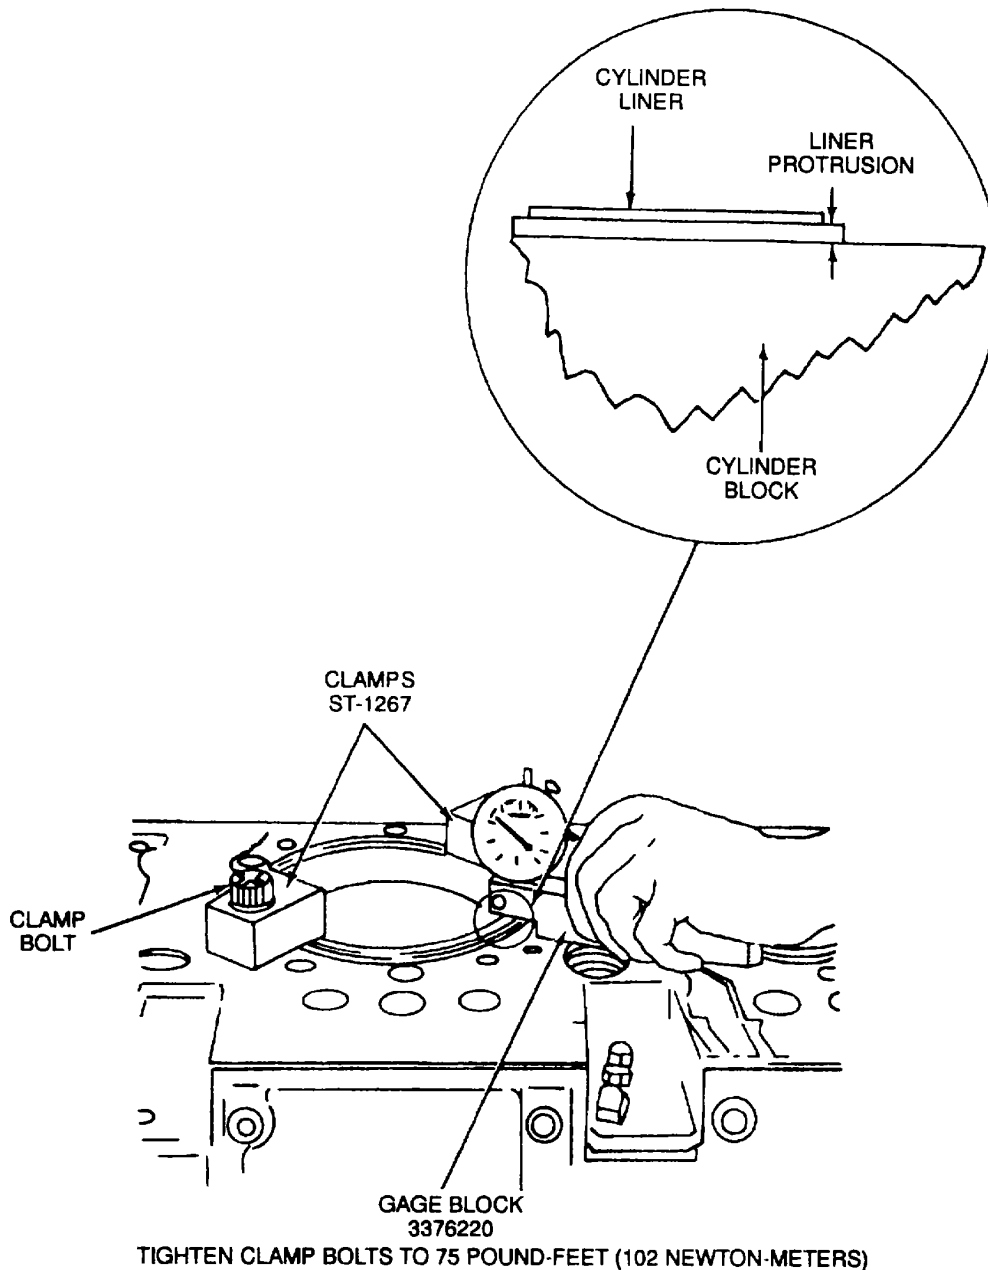

Figure 9-34. Checking Cylinder Liner Protrusion
- e. Install the cylinder liner dampers ST-1 267 and check the liner protrusion with gage block 3376220 as follows (see Figure 9-34):
- (1) Position the dampers on the cylinder liner flange 180 degrees apart with the damper holes centered on the threaded cap screws holes in the cylinder block. Install the cylinder damper bolts provided, and tighten evenly to 75 pound-feet (102 newton-meters).
- (2) Zero the dial gage of gage block 3376220 on the cylinder block surface. Be sure to hold the gage block flat on the cylinder block surface while zeroing the gage.
- (3) Move the indicator to index on the outer flange of the liner (Figure 9-34). Holding the gage block flat on the cylinder block surface, read the liner protrusion on the gage. Make three more measurements at 90 degree intervals around the liner flange.
- (4) If the liner protrusion is not in accordance with Table 1-4, or varies more than 0.001 inch (0.03 mm), check the liner in accordance with paragraph 9-24.